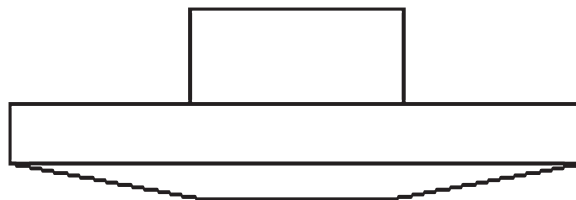

FIGURE 27.20
- Step 6.** Press Enter to accept the 0 angle of rotation (unless you want to rotate the view). You are done; the 3D model looks like the one shown in Figure 27.20.